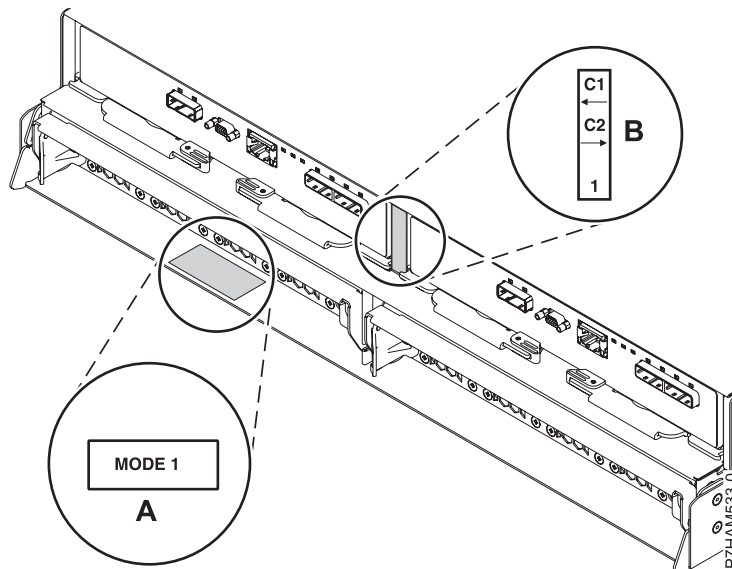

Figure 33. Mode sticker locations at the rear of the 5887 disk drive enclosure
- 2. Confirm the factory-set mode of the 5887 disk drive enclosure by using information printed on stickers at the rear of the enclosure. Stickers are attached to the lower-left shelf of the chassis (**A**) and the center support between the enclosure services manager (ESM) modules (**B**). The stickers indicate whether the enclosure is set to mode 1, mode 2, or mode 4, as shown in Figure 33.